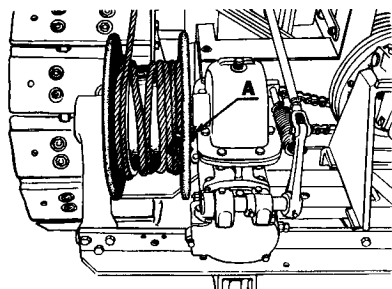

Figure 25 Clamping Cables to Drum Flange
frame and to the left drum, then clamp it to the drum flange. Refer to (A), Figure 25. Place the loop of the U-bolt over the end of the cable. Start the tractor engine and reel the cable on the drum. Again, eliminate kinks or twists as this is being done. Spool approximately one-half of the cable.